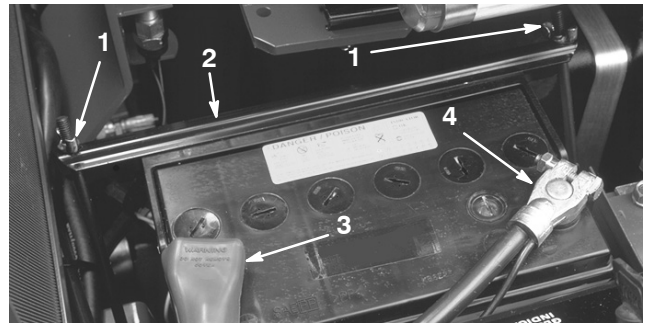

Figure 6
2. Remove two wing nuts and hold down strap that secures battery (Fig. 6). Lift battery out of chassis. Keep wing nuts and hold down strap in safe place for later use.